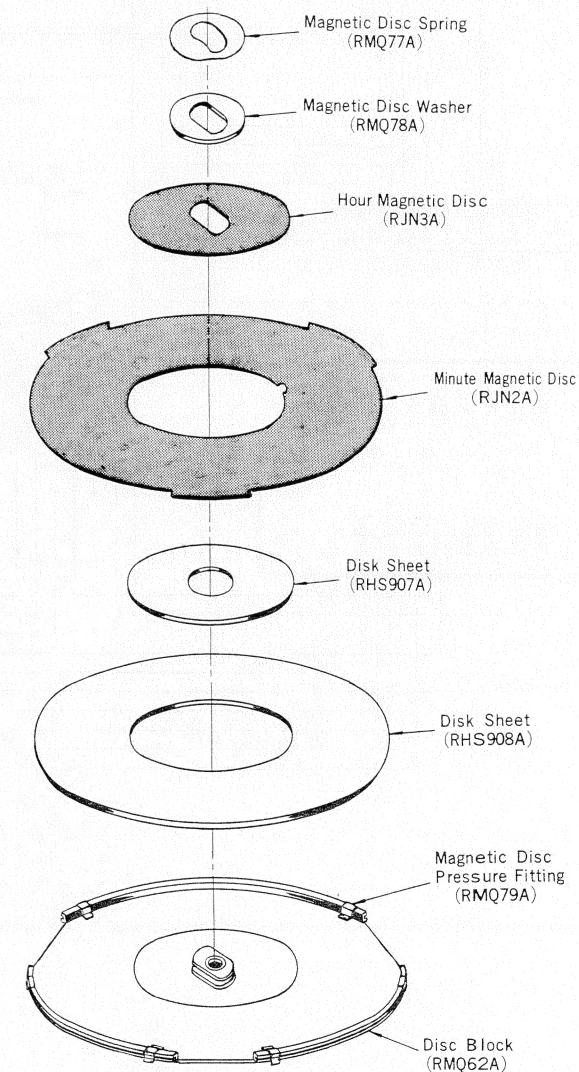

Fig. 12
3. Remove the spring retaining the magnetic disc, as shown in fig. 12.
4. Remove the washer retaining the magnetic disc, as shown in fig. 12.
5. Remove the magnetic disc, as shown in fig. 12.